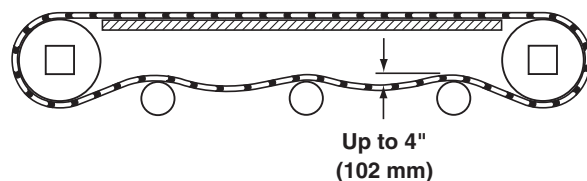

Figure 44
4. Check belt sag by measuring from the top of the return (Figure 44). Belt sag should not exceed 4" (102 mm). Follow steps 7 – 9 in the "Belt Installation" section on page 13 to remove slack from the belt.